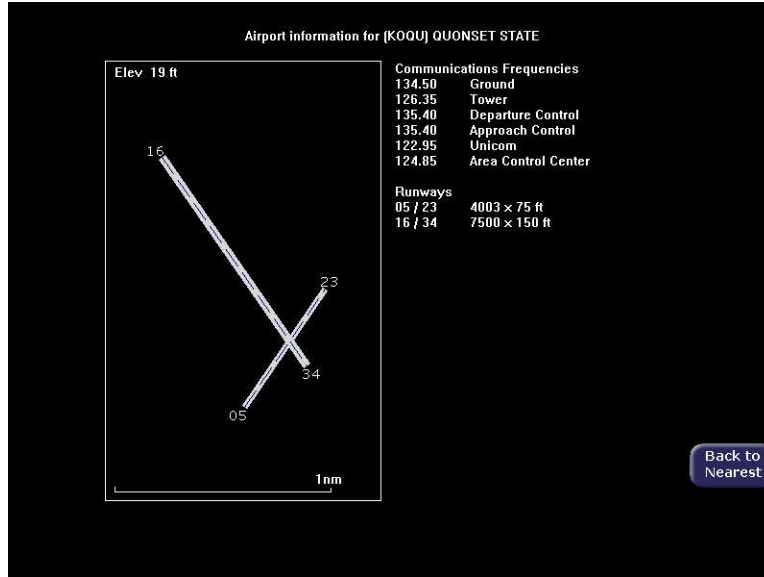

Figure 8.2 Airport Information Page
- 3) **Airport Info**—Provides quick access to airport information for the airport highlighted. *Airport Info* only appears when viewing the Airports Nearest to Position and Airports Nearest to Destination. Airport Info displays a page similar to Figure 8.2.
- 5) **FILTER**—Press to see all airport types (SHOW ALL) or only the airport types as defined on the Airport Filter page (ON) (see Section 9.2, "Airport Filter Setup Page" on page 83). *Filter* is only visible on the Nearest Airport pages.